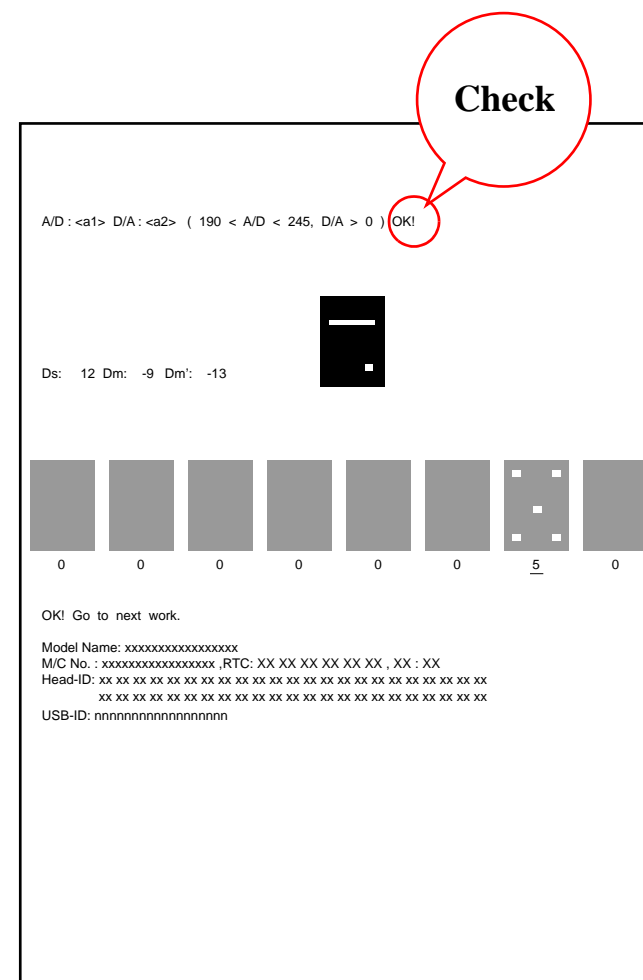

Figure 5-63. Adjustment Pattern
4. See the printed pattern and check the pattern in the position shown in the Figure 5-63.